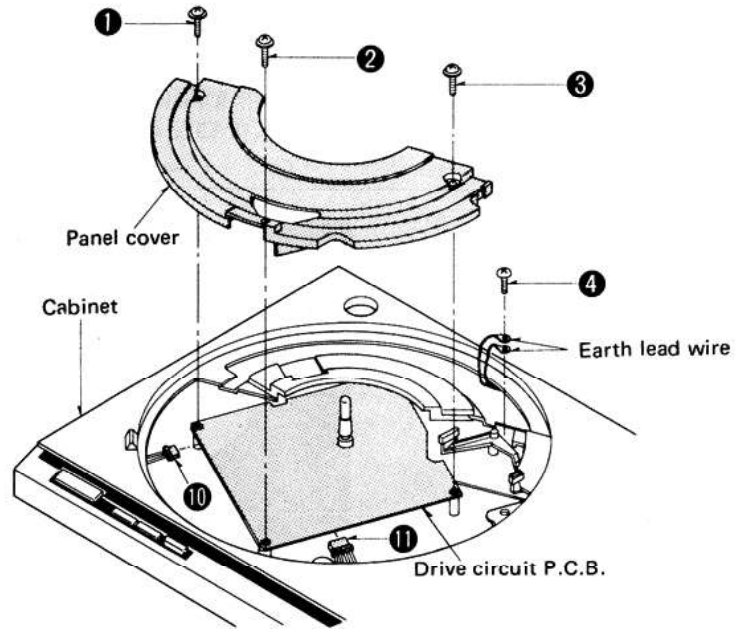

Fig. 1
3. Remove the panel cover setscrews ① ~ ③ and earth lead setscrew ④. (See Fig. 1)
8. Remove the connectors ⑩ and ⑪ of the drive circuit P.C.B. (See Fig. 1)